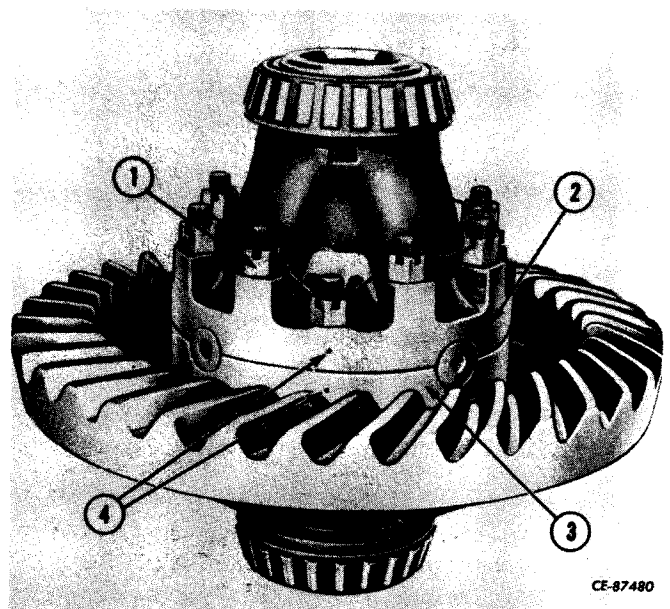

Figure 6-30
Align mating marks (4, Fig. 6-30) on case halves (2, 3) and secure assembly with four equally spaced cap screws, flat washers and hex nuts (1).